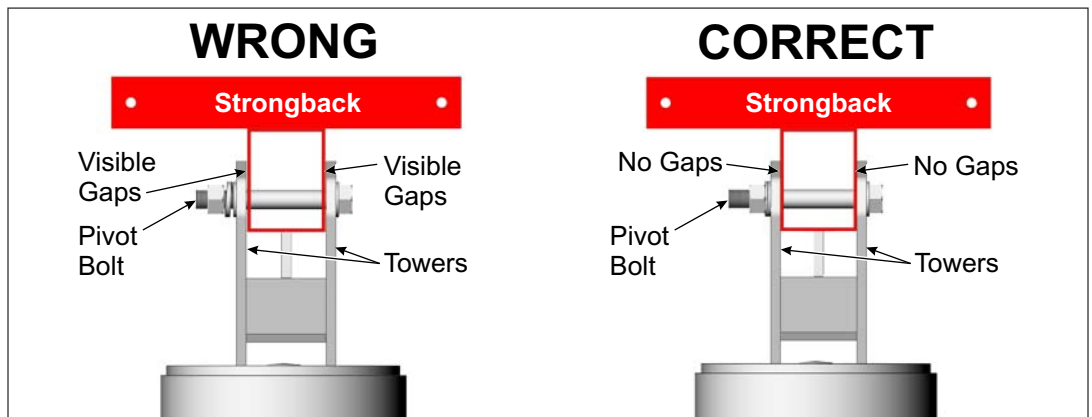

Figure 2-4: Tighten and Torque the Pivot Bolt
- G. Return and tighten the Pivot Bolt, Return and tighten the Pivot Bolt. The Pivot Bolt cannot be left loose - the Mounting Sleeve Vertical Towers must be firmly clamped to the sides of the Strongback eliminating any gaps between the Vertical Towers and the Strongback. **Torque to 125-150 ft.-lbs.** (See Figure 2-4)